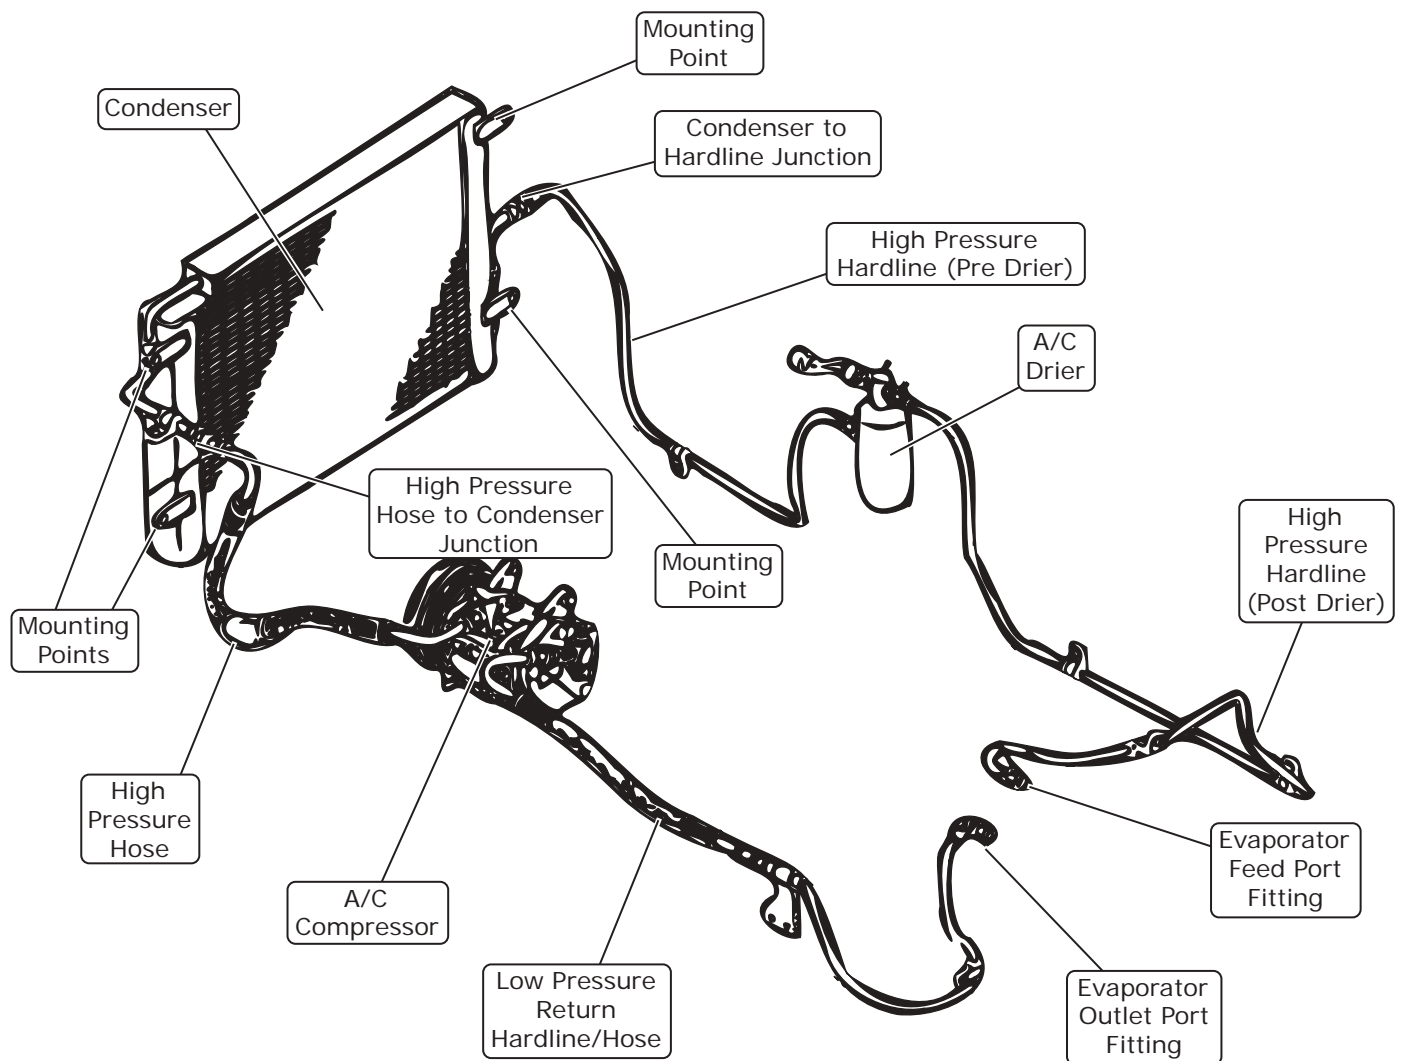

Figure 1
1. Disconnect the single power lead to the compressor and pigtail connector to the driers low/high pressure switch (See Figure 1, below).